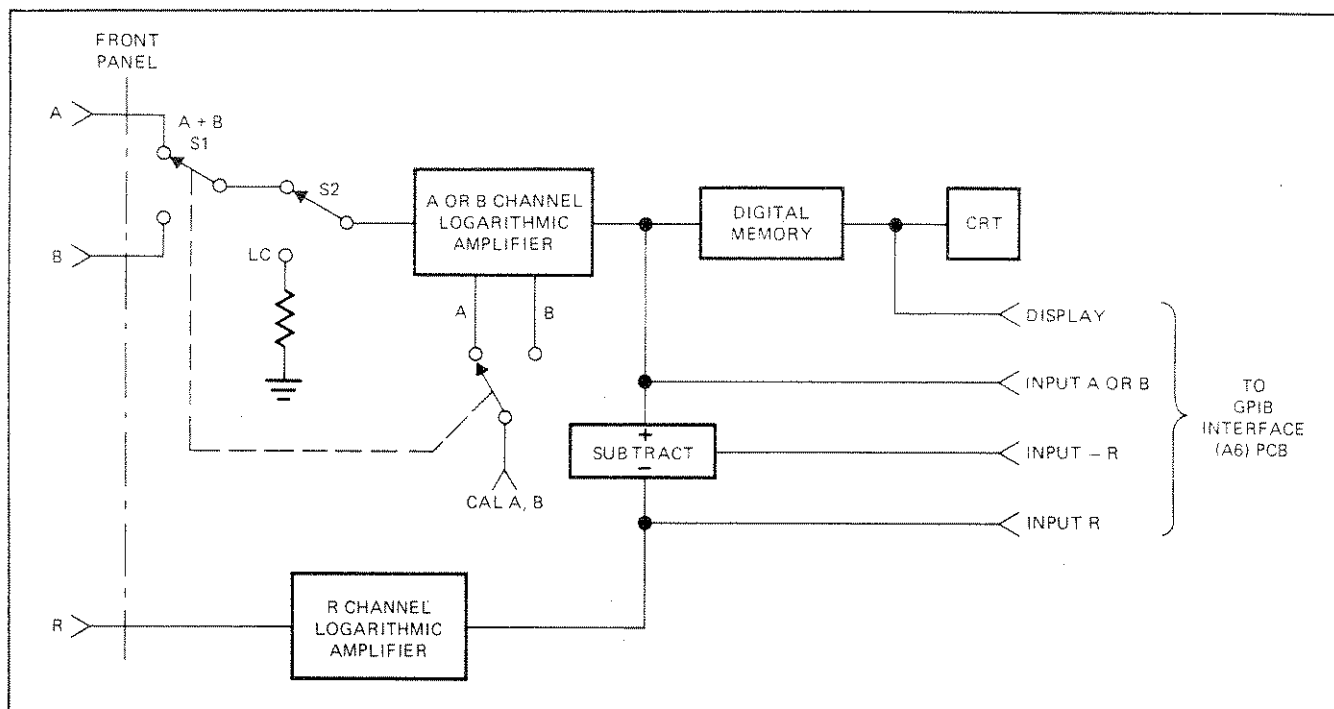

Figure 3-16. Simplified Block Diagram Showing GPIB Interconnection
Interconnection to the GPIB is shown in Figure 3-16. Except for the output connection labeled DISPLAY (used during AD, BD modes only -- see subparagraph a below), the GPIB Interface Circuit Board is connected to the outputs of the channel-amplifiers and the subtract circuit. With connection made at these points, except for POWER, none of the Model 560A front panel controls (MEMORY, dB PER DIVISION, DISPLAY MODE, etc.) have any effect on bus opera-
1. Input commands AI, BI, and RI provide for collection of input data from A Channel, B Channel, and R Channel, respectively. These codes command the 560A to (1) collect analog data from the respective A, B, or R Channel log amplifier, (2) convert the analog data collected into a 7-bit ASCII format, and (3) hold the ASCII binary data until addressed to talk. To see how this multilevel task is accomplished, refer to Figure 3-16 while reading the following description.
2. The input-minus-reference commands, AR and BR, provide for collection of A-R and B-R data, respectively. Circuit operations are similar to those described for the input commands. The main difference between operation in these modes and operation in the input modes is the point from which the circuit output is taken. As shown in Figure 3-16, the circuit output is taken from the Subtract circuit; this circuit contains the difference signal when the selected A or B Channel output signal is subtracted by the R Channel output signal.
thermal compensation for the A, B Channel log amplifier with no signal present and with the amplifier input grounded. To see the circuit operation, refer to Figure 3-16. When the LC command is received, switch S2 momentarily grounds the A or B Channel log amplifier input; the CAL A, B signal causes thermal compensation to be affected.
2. External calibrate command EC provides thermal compensation for the A, B Channel log amplifier when the amplifier input is connected to its microwave input device (RF detector or SWR Autotester). This command provides better thermal compensation than LC does; however, sweep generator RF must be off (< -60 dBm) for this command to be effective. Circuit operation for EC is the same as described for LC, except that switch S2 is not affected and remains connected, as shown in Figure 3-16.
3. Channel select commands CA and CB provide channel-switching only. In the absence of a data command, these two commands select the channel to which the calibrate signal will be applied. As shown in Figure 3-16, channel input switch S1 is "ganged" with the CAL A, B switch. When a CA or CB command is received, it causes these two switches to switch to their A or B positions, respectively. The CAL A, B switch is used to apply the calibrate signal to the appropriate amplifier; S1 is used to connect the appropriate channel connector to the amplifier unit.